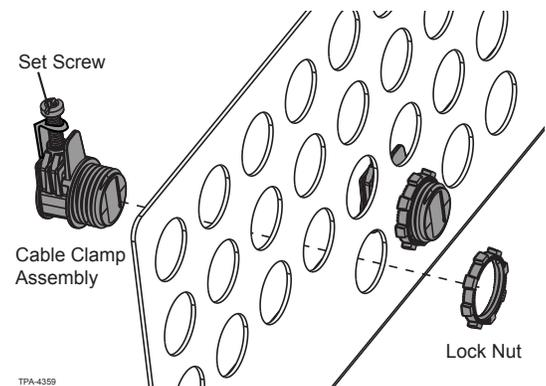

Figure 17
- Step 1:** Install the cable clamp(s) in the panel opposite the prepared hole(s) in the cabinet wall (Figure 17) by removing the locknut, feeding the clamp through the hole in the cable clamp panel, and reinstalling the lock nut.